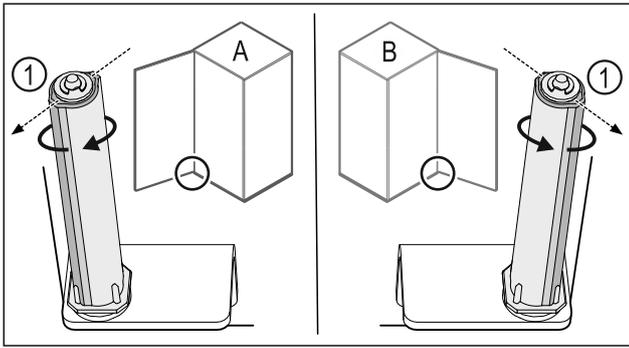

Fig. 44 Left stop (A) / right stop (B)
- ▶ Turn the locking system against the resistance until the bar on the locking system Fig. 44 (1) is pointing outwards.